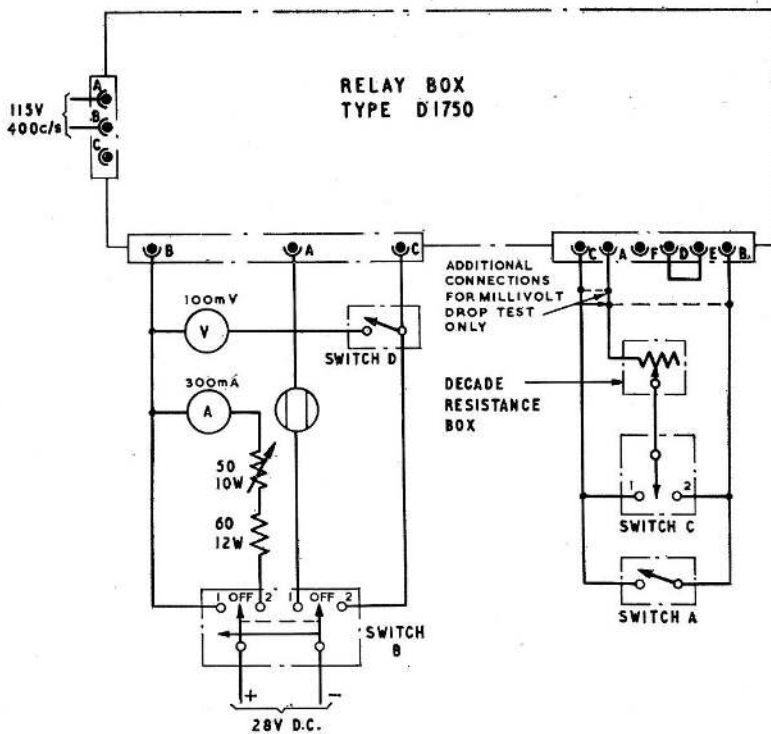

Fig. 4. Test circuit diagram
11. The relay box should be functionally tested using a Graviner Firewire test set and the procedure given in the Standard Serviceability Test, Appendix A to this chapter. Additionally the millivolt drop through the contacts of the warning relay and the test switch may be measured using the test circuit given in fig. 4 which may also be used for functional tests where a test set is not available.
13. The millivolt drop across the contacts of the relay and the test switch may be determined by connecting shorting links or suitable switches, shown by broken line in fig. 4, across terminals A, B and C of the 6-pole plug.